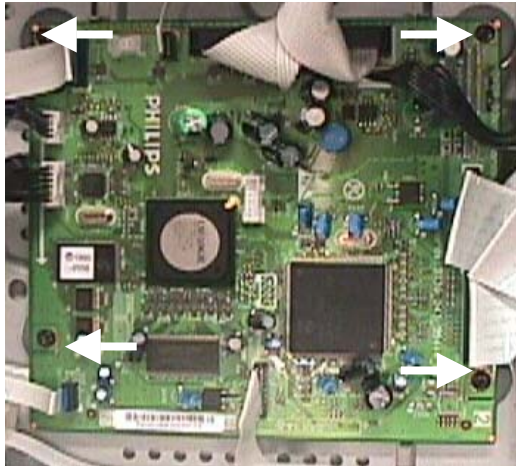

Figure 9 – Digital Board mounting screws
- 2) Then remove 4 screws to loosen the Digital Board 1001 as shown in Figure 9.